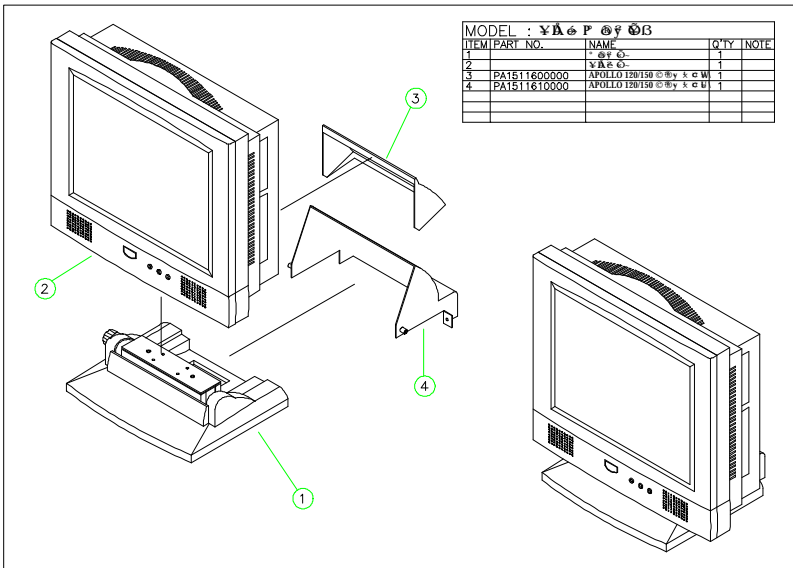

FIGURE 5-14: APOLLO STAND TO MAIN SYSTEM ASSEMBLY
To assemble the stand module (Fig. 5-14 (1)) to the main system (2), simply tighten the two units together with 4 screws from the base. Then, install the two base back covers (4 & 5) to the unit as shown below. There is an additional knob in the accessory. If touchscreen is to be used with the system, it is suggested that the additional knob is to be assembled to the system to prevent the system from wobbling. By swiveling the knob and pulling the base up and down, the angle can be fixed at 45 to 90°.